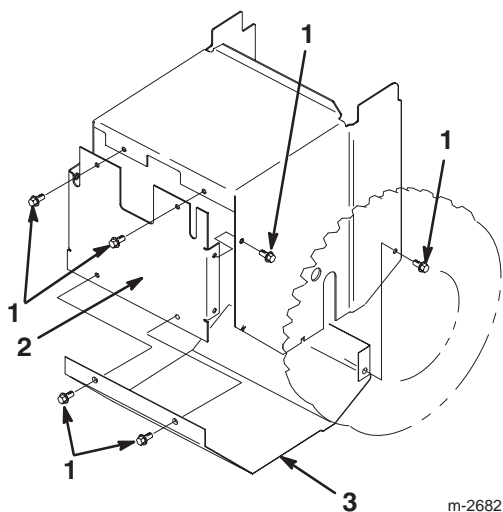

Figure 29
5. Remove the 8 bolts that hold the back and the bottom covers in place and remove the covers (Fig. 29).